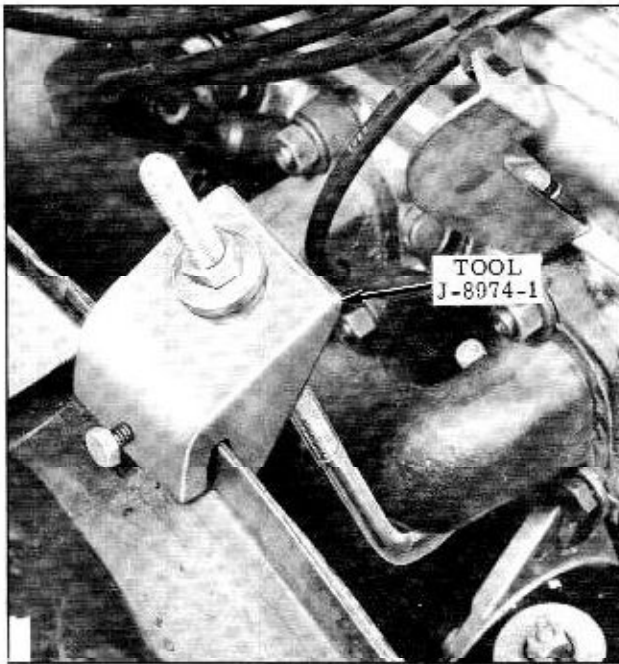

Fig. 8-22 Engine Support Tool
2. If all bearings are being removed, it will be advantageous to disconnect engine mounts and raise the engine one or two inches with Tool J-8974. (Fig. 8-22)